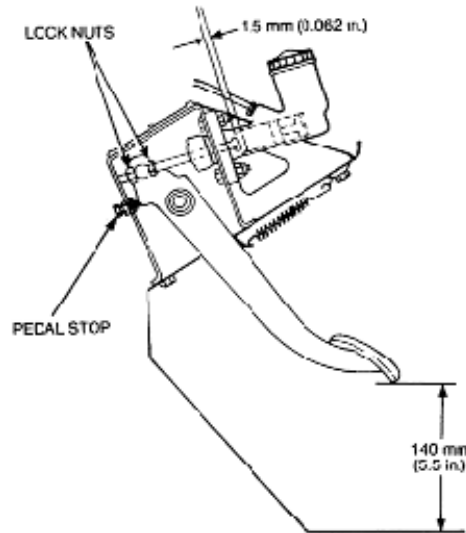

Figure 47 Clutch Pedal Adjustment
- b. Check the distance from the lower edge of the clutch pedal to the floor (Figure 47).